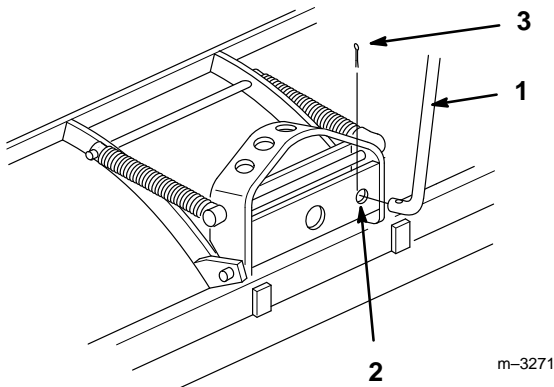

Figure 2
2. Insert control rod in 1/2" (13 mm) hole in bottom plate of channel. Secure control rod with 1" (26 mm) cotter pin between plates (Fig. 2).